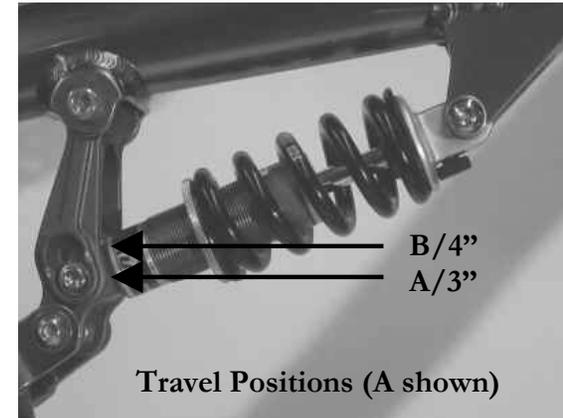

Fig35
2. Wheel Travel Adjustment. The K2 Attack offers two travel increments. Position A, as in (fig. 35), will give you 3” of rear wheel travel, while position B alters the geometry to allow 4” of travel.